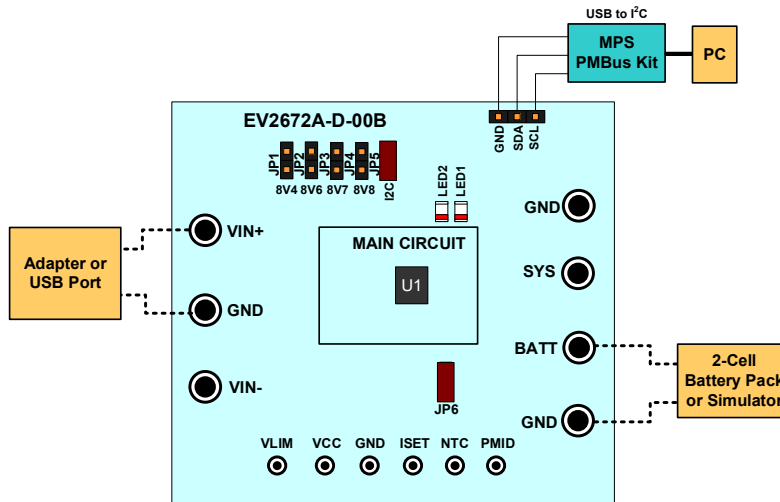

Figure 2: Test Set-Up for the MP2672A in Host-Control Mode
Figure 2 shows the set-up for host-control mode. For this mode, connect the CV pin to the VCC pin. The battery-full voltage and charge current are set by the I2C register.
4. Configure the test set-up for the MP2672A (see Figure 2).